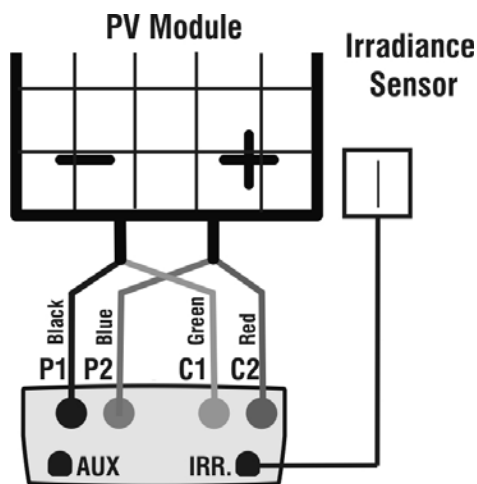

Fig. 7: Connection of meter to a PV module
14. Connect the meter to the module/string under test as shown in Fig. 7. In particular, connect the negative output pole to P1, C1 input terminals and the positive output pole to P2, C2 input terminals